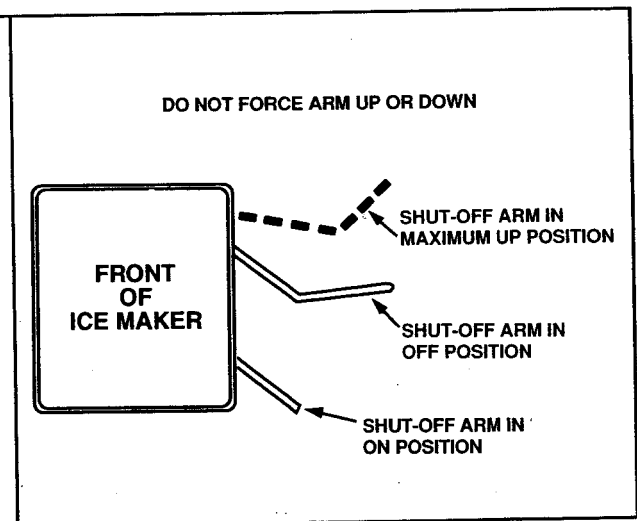

Figure 27
4. To stop ice maker operation at any time, gently raise the shut-off arm to the OFF position. See Figure 27. *Do not force the arm up.*
To avoid damage to the ice maker, do *not* raise the shut-off arm past the maximum position. See Figure 27.